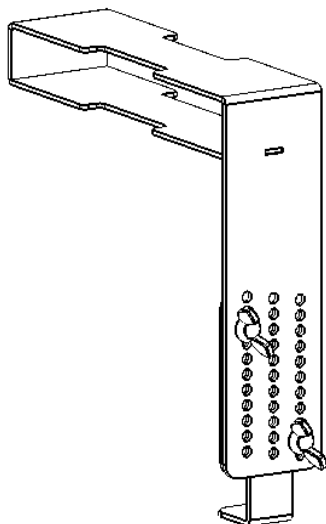
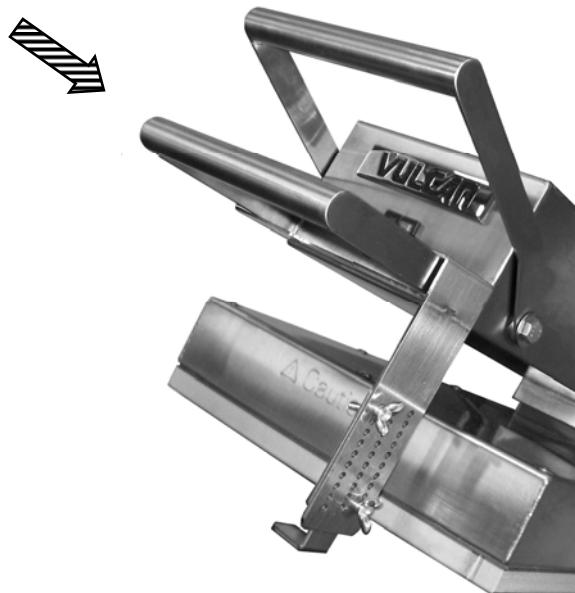

Fig. 25
Fig. 26
- Slide plate gap adjuster (fig.25) onto the bottom handle as shown in figure 26.